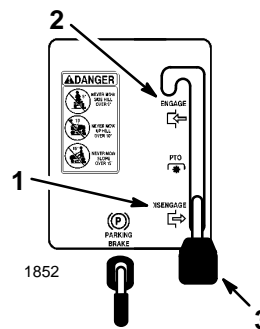

Figure 9
3. Move the blade control (PTO) to “DISENGAGED” (Fig. 9).